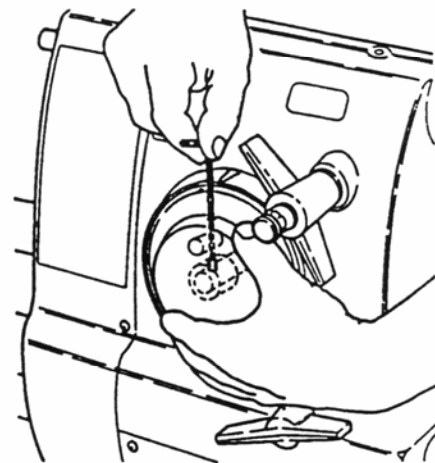

Fig. 8
2. Remove the speed control handle. With the access hole in the side of the speed control handle facing up, insert a 3/32" Allen wrench in the hole and loosen the setscrew holding the handle to the worm control shaft gear. See Fig. 8. Pull the control handle assembly free of the shaft.